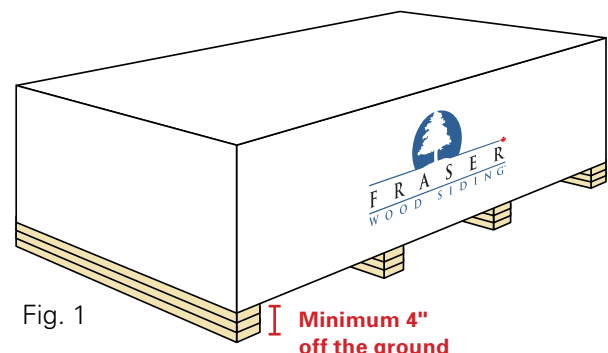

Fig. 1
- Siding should be stored a minimum of 4" off the ground on a flat surface, under a roof or under a waterproof covering. (See Figure 1)